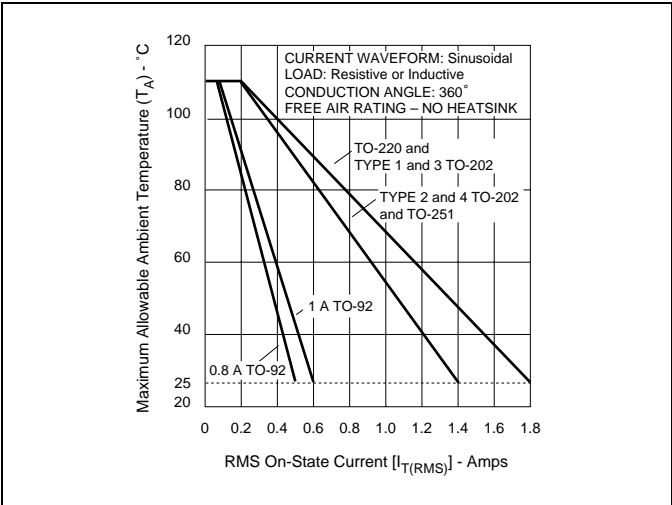
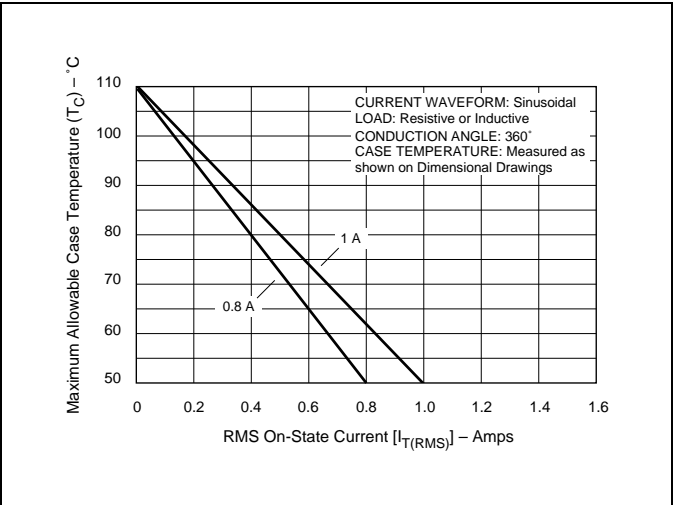
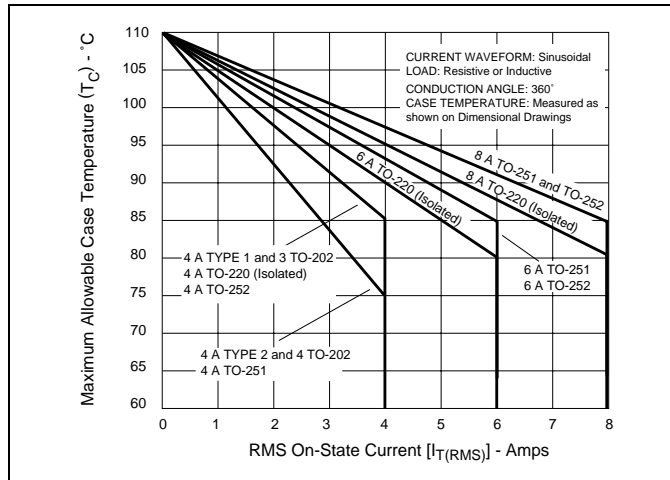

Figure E1.1 Maximum Allowable Ambient Temperature versus On-state Current
Figure E1.2 Maximum Allowable Case Temperature versus On-state Current (0.8 A and 1 A)
Figure E1.3 Maximum Allowable Case Temperature versus On-state Current (4 A, 6 A, and 8 A)
- (10) See Figure E1.2 and Figure E1.3 for maximum allowable case temperature at maximum rated current.
- (11) See Figure E1.1, Figure E1.2, and Figure E1.3 for T_A or T_C versus $I_{T(RMS)}$.
- (12) See package outlines for lead form configurations. When ordering special lead forming, add type number as suffix to part number.
- (13) Pulse width $\leq 10 \mu s$
- (14) T_C or $T_L = T_J$ for test conditions in off state
- (15) Minimum non-trigger V_{GT} at $110^\circ C$ is 0.2 V.